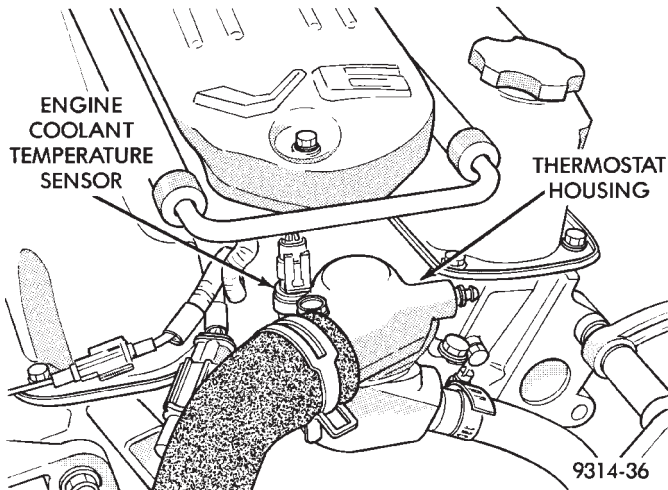
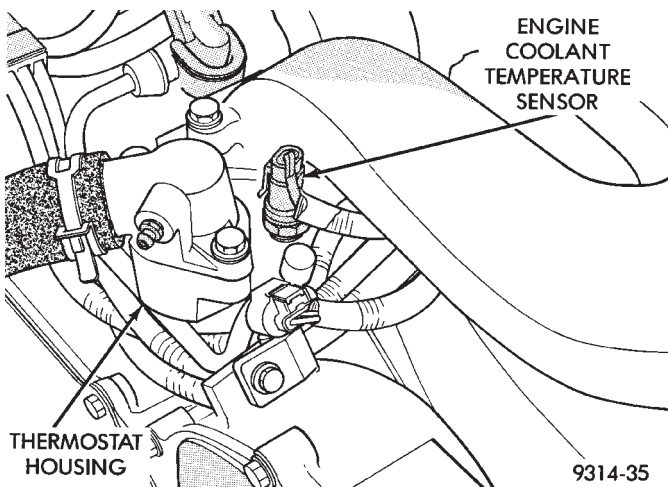

Fig. 57 Engine Coolant Temperature Sensor Location—3.3L
Fig. 58 Engine Coolant Temperature Sensor Location—3.5L
(1) With the key off, disconnect wire harness connector from coolant temperature sensor (Fig. 57) or (Fig. 58).
(2) Connect a high input impedance (digital) volt-ohmmeter to terminals A and B. The ohmmeter should read as follows:
(3) Test the resistance of the wire harness between the PCM 40-way connector terminal 26 and the sensor harness connector. Refer to Group 8W, Wiring diagrams for circuit information. If the resistance is greater than 1 ohm, repair the wire harness as necessary.